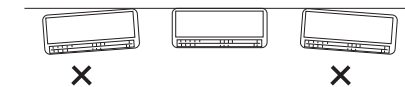

Fig. 3-81
- (2) Double check with a carpenter's level or tape measure that the panel is level. This is important to install the unit properly. (Fig. 3-81)
- (3) Make sure the panel is flush against the wall. Any space between the wall and unit will cause noise and vibration.